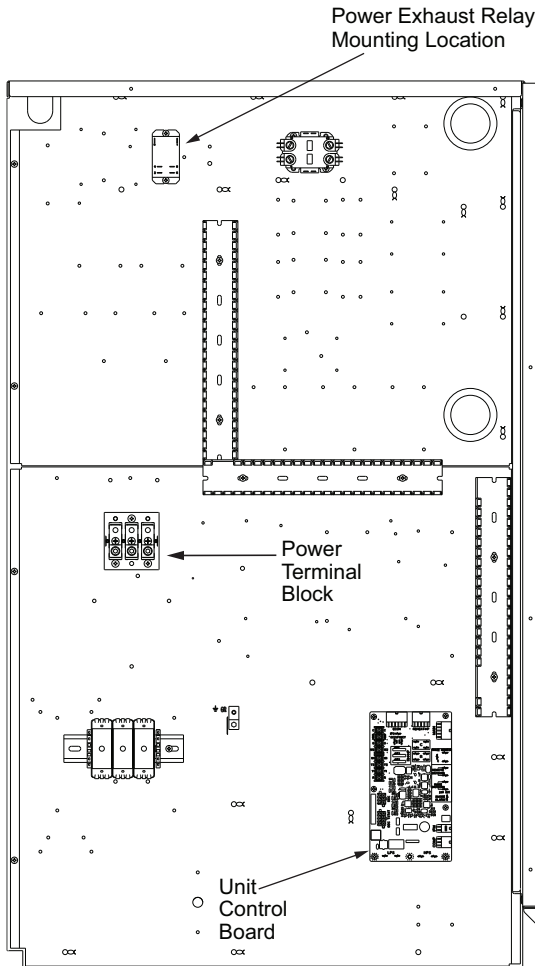
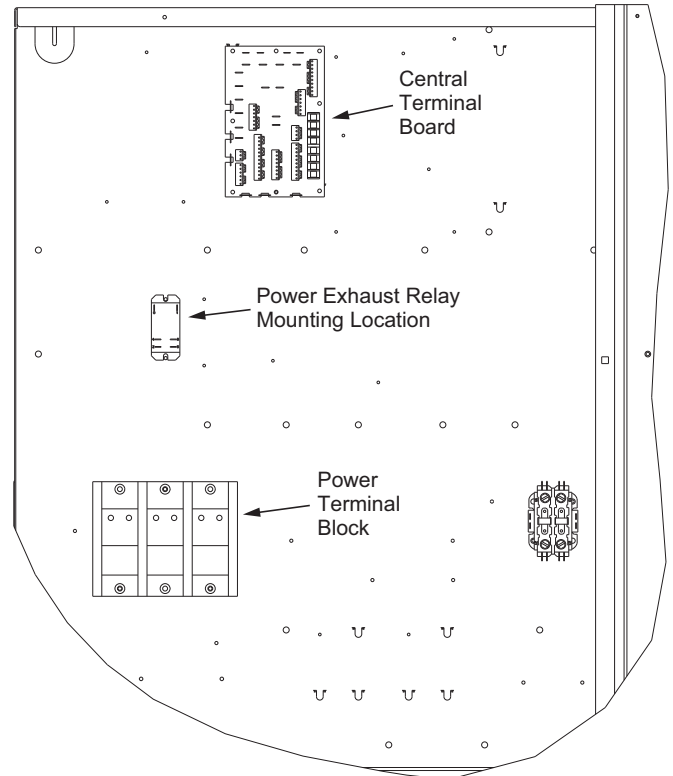

Fig. 1 — Power Exhaust Relay Installation (Vane Axial Fan Units)
Fig. 2 — Power Exhaust Relay Installation (Belt Drive Fan Units)
4. Install the Power Exhaust Relay (PER) in the control box, at the position shown in Fig. 1 for vane axial units and Fig. 2 for belt drive fan units, using two 8-18 in. x 1/2 in. pan head screws (AL56AU166).